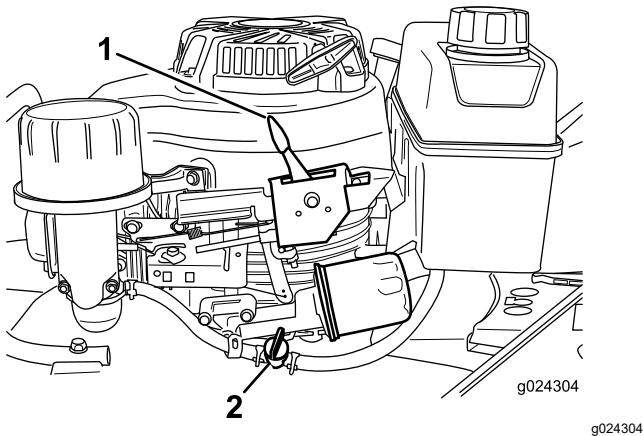

Figure 15
2. Open the fuel valve (Figure 15).
3. Move the throttle-control lever (Figure 15) to the CHOKE position.
Release the blade-control bar and move the throttle-control lever (Figure 15) to the STOP position.
**Note:** Close the fuel valve (Figure 15) if you will not be starting the engine soon afterward.